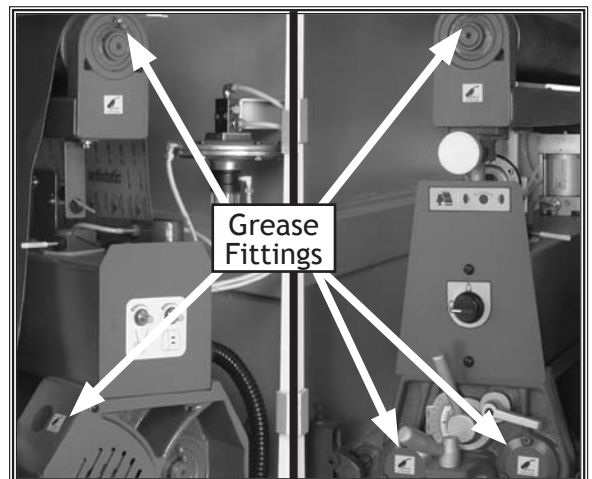

Figure 30. Left/right grease fitting locations.
- After every 150 hours of use, lubricate the bearings (**Figure 30 & 31**) with one squirt of automotive-grade grease at the designated points.